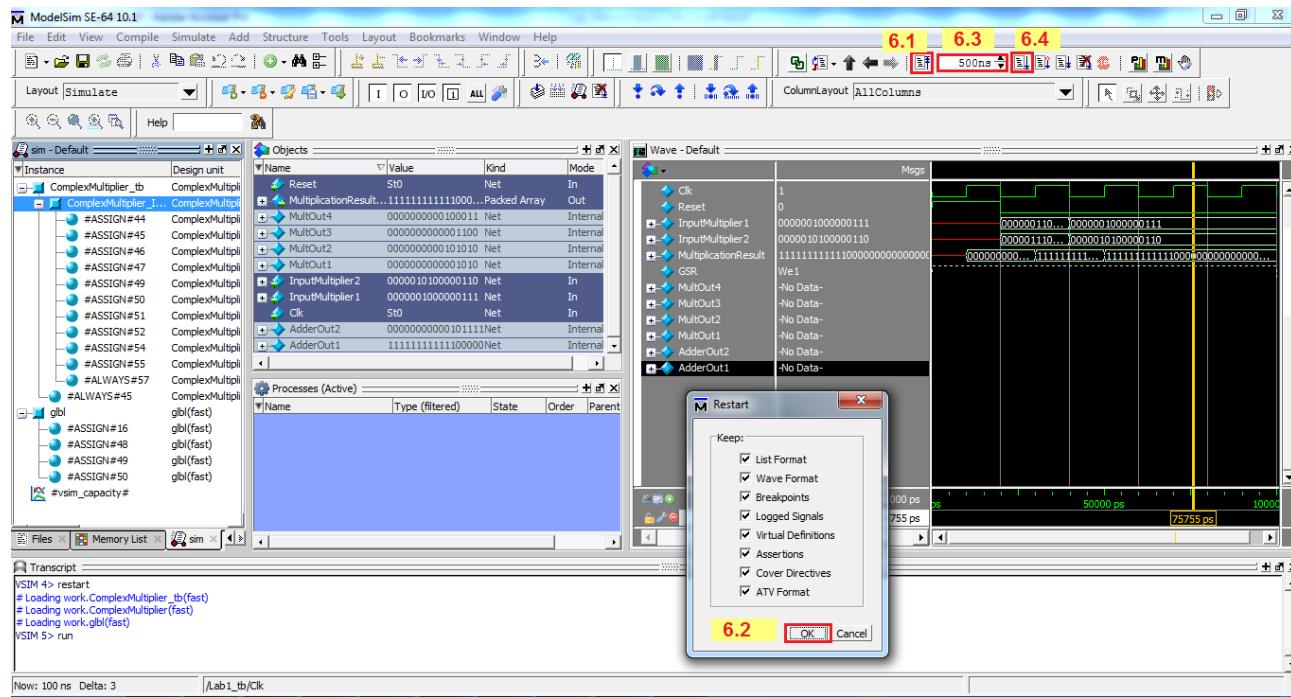

Figure 12.
6. Performing the Simulation (Figure 12)
- 6.1. On the top of the main window, click on the **Restart Simulation Icon** (See Figure 12).